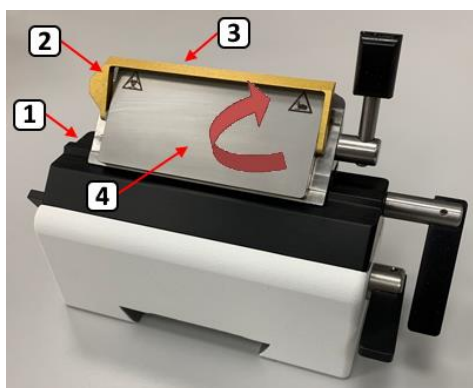

Figure 3
Each disposable blade carrier DBC (1) is equipped with a finger-guard (2) to protect the user from unintended contact to the disposable blade (3) which protrudes over the clamping plate (4) with its cutting edge. **Fig. 3** shows the disposable blade carrier DBC (1) with the finger-guard (2) in the protecting position. The finger-guard (2) is swiveled upwards to cover the cutting edge (5). This position should be applied in all situations besides actual sectioning.